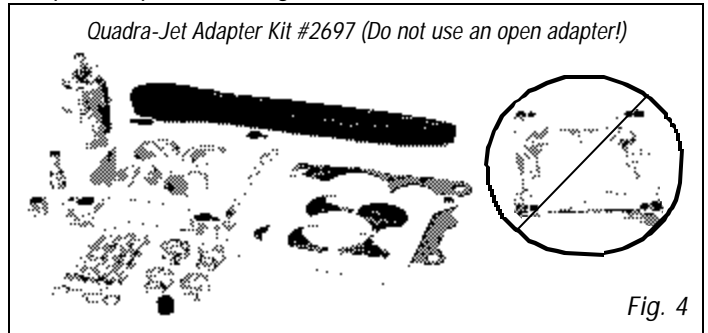

Fig. 4
- You must use an Edelbrock Adapter #2696 or Adapter/Fuel Line Kit #2697 when installing a Performer Series Carburetor on a General Motors Quadrajet or Chrysler Thermoquad manifold. #2697 includes adapter #2696 and fuel line kit #8135. Do not use an open adapter! (See Fig. 4)